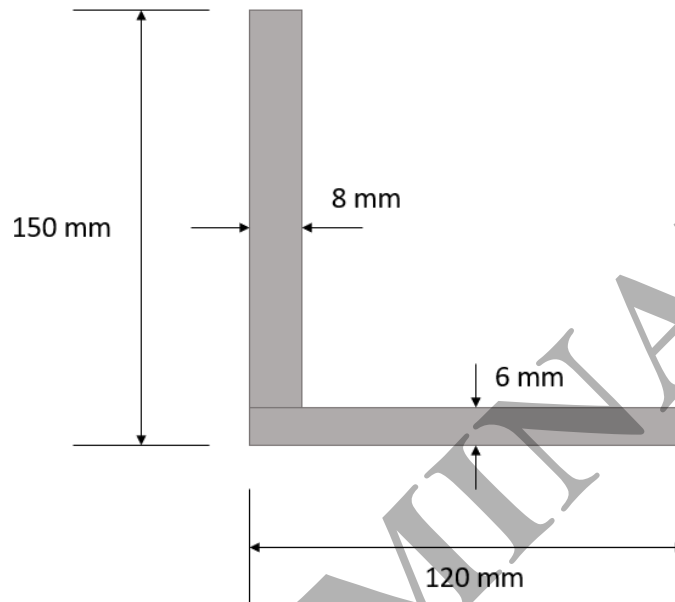

Figure 2- cross section of L beam
- Q2.** Figure 2 shows the cross section of an L beam. The beam is not symmetrical and exhibits unsymmetrical bending when a load is applied.
- a) Find the position of the centroid for the section in Figure 2. (6marks)